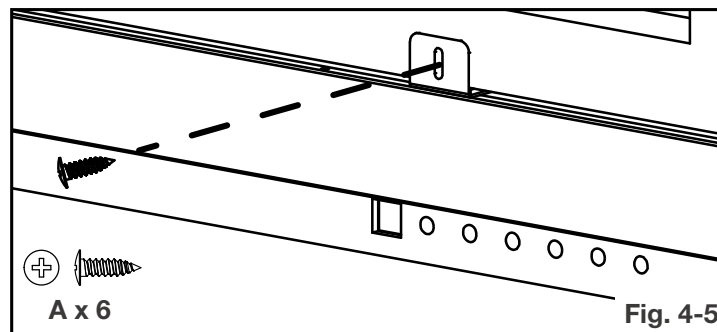

Fig. 4-5
1. Secure the appliance to the rough-in framing by installing 6 screws (supplied) through the metal brackets **(Fig. 4-5)**.